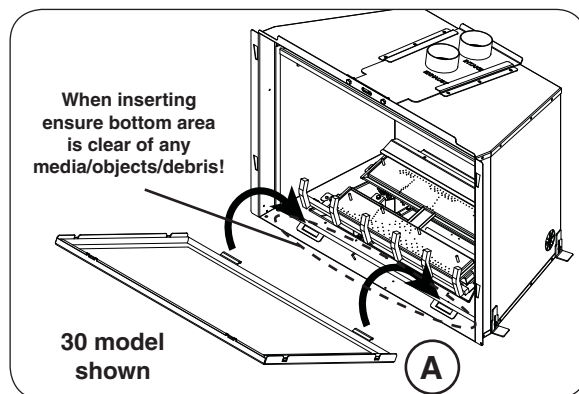

Fig. 35-1 Insert glass panel bottom
1. The bottom of the glass panel has two tabs. Insert the tabs into the two slots found on the bottom of the unit. Wear gloves. See Fig. 35-1, "A".